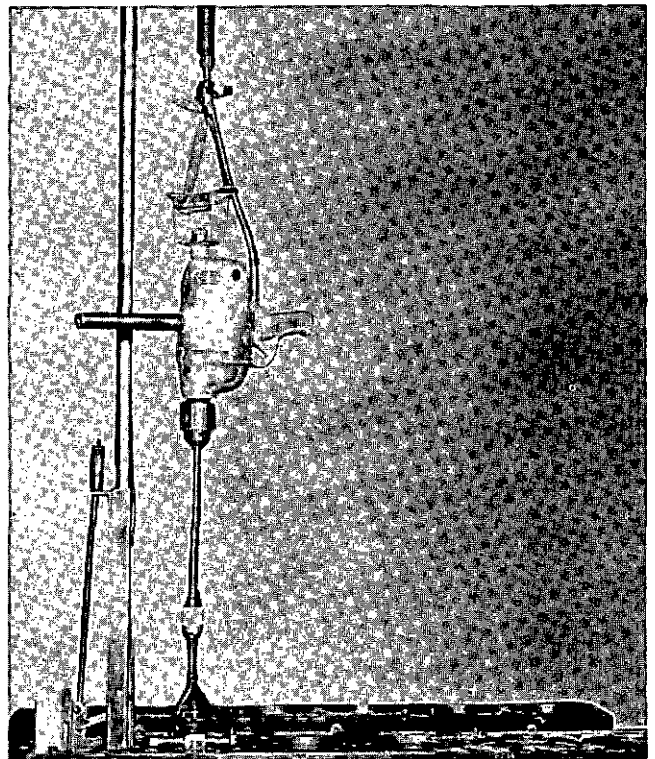

Fig. 1-2-3, V40132. Honing liner
5. Place a Sunnen AN-80 Quick Coupler, or equivalent, securely in drill chuck. Fig. 1-2-3.